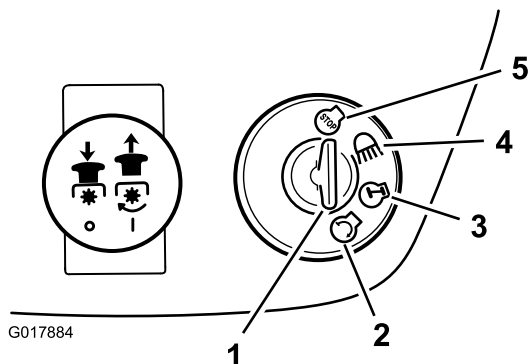

Figure 10
6. Turn the ignition key clockwise and hold it in the Start position (Figure 10).
2. Turn the ignition key to the Off position (Figure 10).